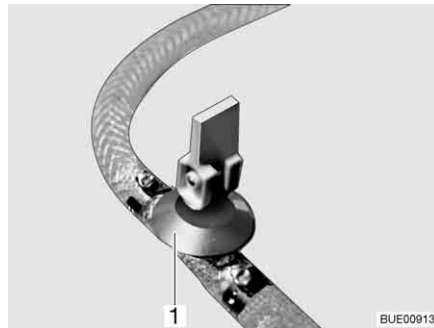
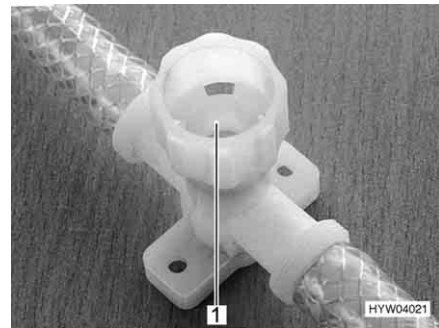

Fig. 192 Drain cock (with rocking lever)
Fig. 193 Drain cock (with twist cap)
- Close all drain cocks. To do this, position the drain cock's rocking lever (Fig. 192,1) horizontally or turn the drain cock's cap (Fig. 193,1) in a clockwise direction.